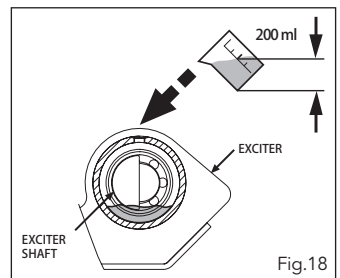

Fig.18
7. Fill the exciter housing (9) with the recommended exciter oil. (Fig. 18)